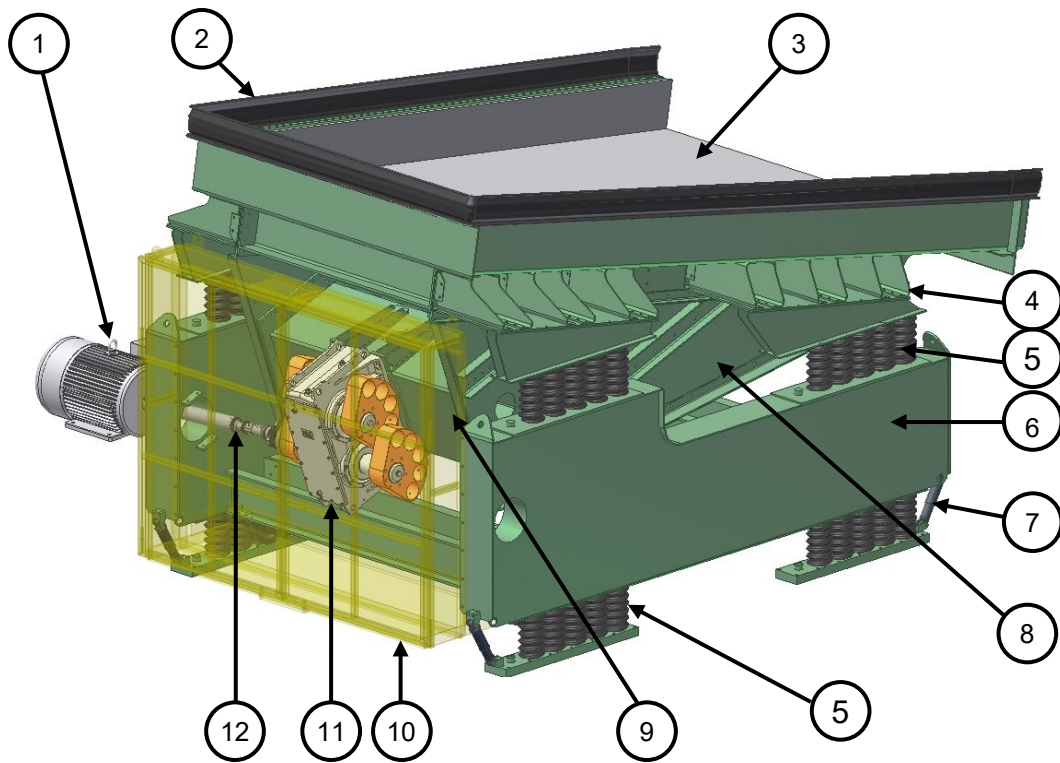

Figure 2.3-1 Main features of an exciter driven feeder
- Exciter driven feeder pictured in Figure 2.3-1